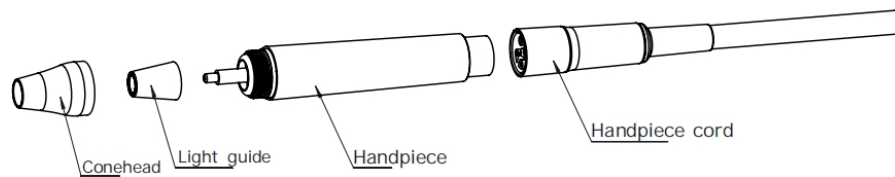

Figure 2.5
- 5) Fasten the tip to the handpiece with torque wrench (See Figure 2.6), and then correctly connect the handpiece with the handpiece cord socket. Before installing the handpiece, dry the connection end of the handpiece and the socket thoroughly (Figure 2.5).